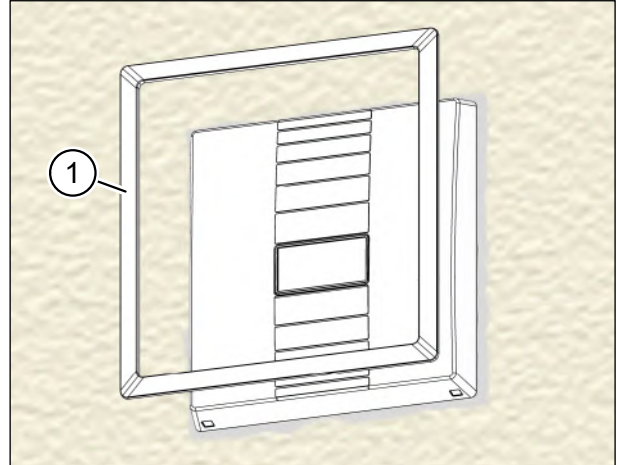

Fig. 47: Attaching the blind frame
- ▶ Push the blind frame (item 1 in Fig. 47) over the installed ventilation unit until it lies against the internal wall.